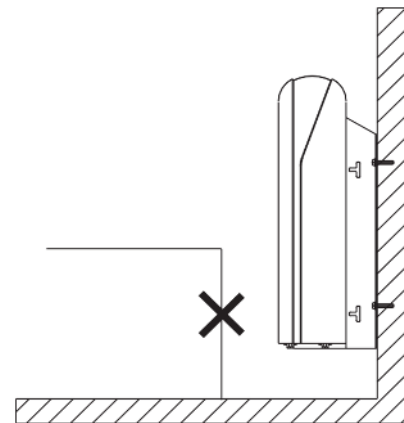

Figure 15
- (3) Select a location that has enough service space when the unit is mounted on the floor/wall. See figure 15